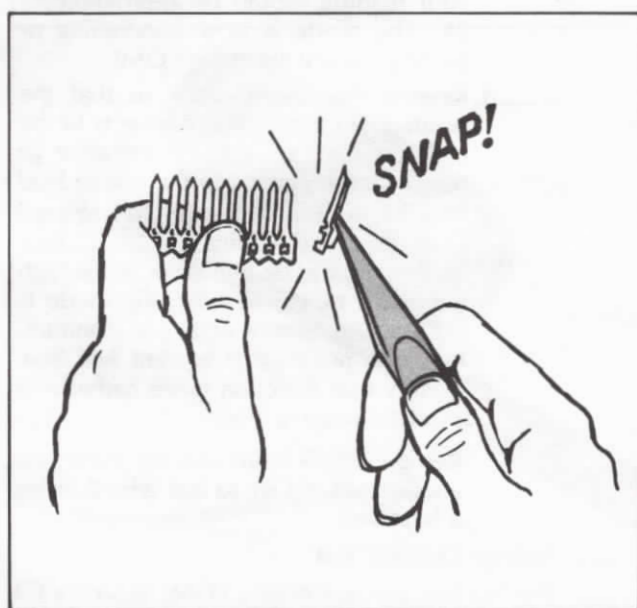

FIG. 14
1. Separate eight pins from the soldering pin strips as shown in Figure 14.